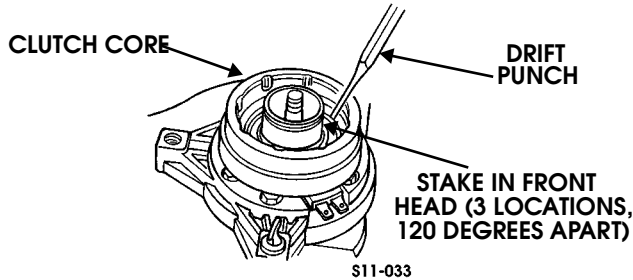

Figure 11-63: Drift Punch
- When core is fully seated on the compressor, use a 1/8-in. diameter drift punch and stake the front head at three places, 120 degrees apart, to ensure clutch core remains in positioning (Figure 11-63).